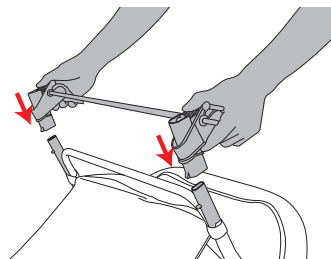

Figure 4
- Locate the rear axle and brake set and slide it onto the rear legs with the link brake facing the rear of the stroller. Be sure to slide each side all the way on until the push pins are engaged in the holes of the plastic. NOTE: You may need to push each of the push pins in to slide the plastic into place. See Figure 4.